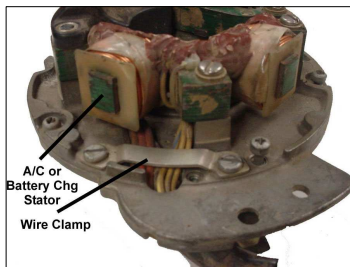

Fig. 1
5. Remove the wire clamp bracket on the top of the stator plate. ( Fig. 1)